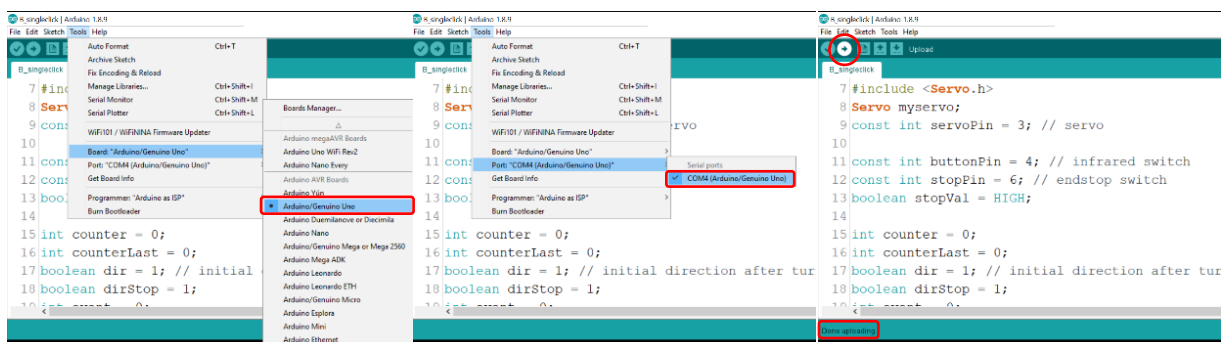

Figure 5: Programming the Arduino, left: Choosing "Board", middle: choosing "Port", right: uploading and uploading successful
4. Go to "Tools > Board:" and choose "Arduino/Genuino Uno" as shown in Figure 5 left.
5. Go to "Tools > Port:" and choose "COM" as shown in Figure 5 middle. If multiple COMs are available, unplug the Arduino, check which COM-choice disappeared, plug it in again and choose the reappeared one.
6. Click on the upload button on the top left as shown in Figure 5 right.